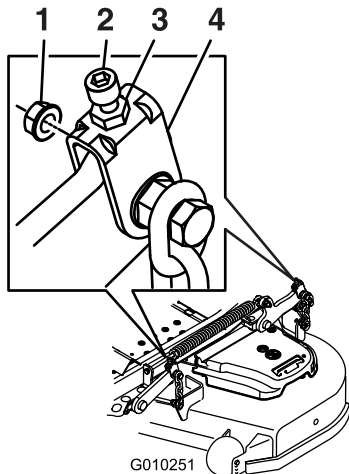

Figure 89
10. If needed, loosen the whizlock nut on the side of the yoke and the jam nut on top. Fine tune the screw adjuster by turning it to get 3 inch (7.6 mm) height (see Figure 89).
16. Fine tune the screw adjuster by turning it to get 3-1/4 inches (8.3 mm) height (Figure 89).